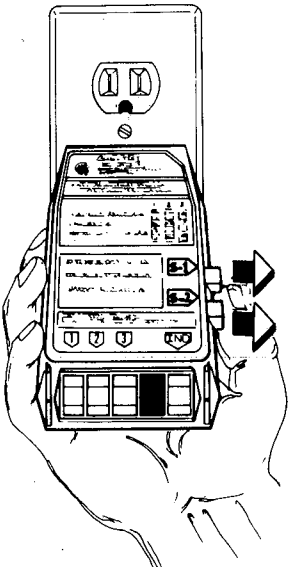

Figure 12
Step 1. Before you plug in the instrument, be sure the black button (S-1) and red button (S-2) are OUT and that you have passed test #1 before proceeding (Fig. 12).